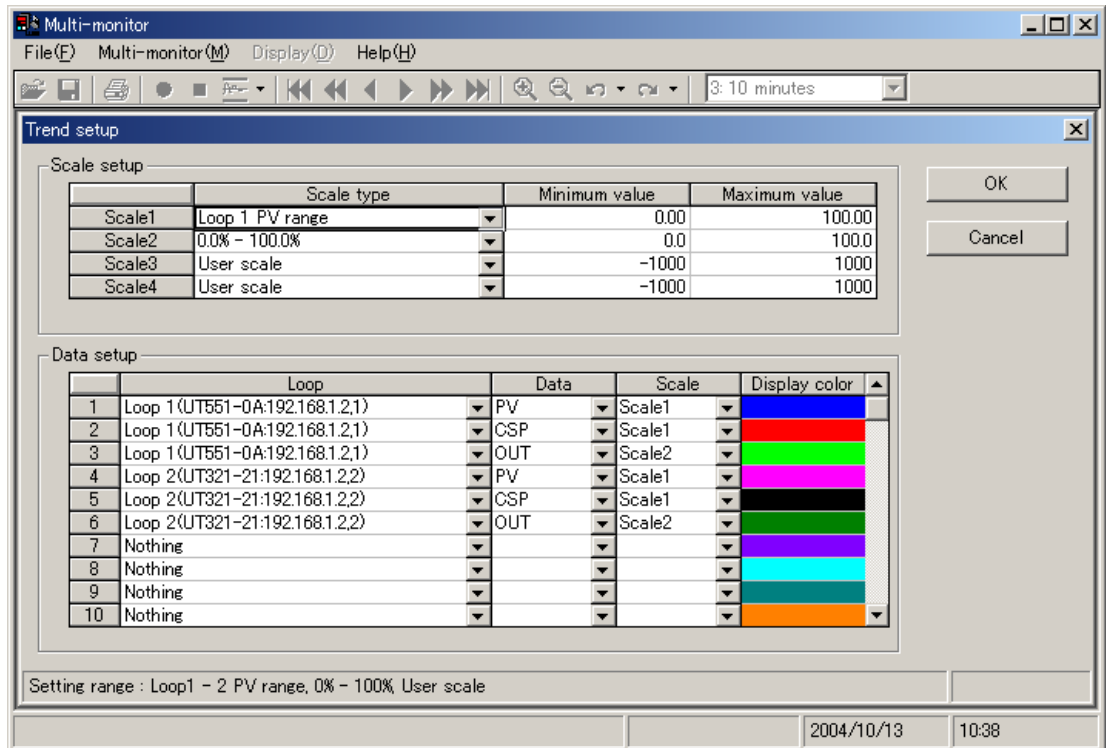

Figure 4.2.1 Trend Setup Dialog Box
- (1) Click **Front communication**.
- (2) From the **Serial port** list, select the communication port of the personal computer from COM1 to COM16.
- (3) Connect the controller to the personal computer, and then click **Execute**.
- (4) The Trend Setup dialog box (Figure 4.2.1) appears after Automatic scan is completed.
- (4) Set the Scanning start address and Scanning end address
- (5) Connect the controller to the personal computer, and then click **Execute**.
- (6) The Scanning address and the Number of detected loops are displayed during Automatic scan.
- (7) When the 16 loops are detected after starting scanning, the scanning to the Scanning end serial address is completed or **Cancel** is clicked, Automatic scan stops and the Trend Setup dialog box (Figure 4.2.1) appears. When interrupted on the way, the loops already detected by that time can be monitored.
- (1) Click **Terminal communication (Ethernet)**.
- (2) Set the target controller's IP address (Scanning start IP address and Scanning end IP address), and RS485 communication address (Scanning start serial address and Scanning end serial address) in the text box.
- (4) The Scanning address and the Number of detected loops are displayed during Automatic scan.
- (5) Automatic scan starts at the Scanning start serial address of the Scanning start IP address. After scanning the Scanning end serial address, the scanning of the next IP address is started. Clicking **Skips to the following IP address** during scanning transfers to the next IP address regardless of the serial address at that time.
- (6) When the 16 loops are detected after starting scanning, the scanning to the Scanning end serial address is completed or **Cancel** is clicked, Automatic scan stops and the Trend Setup dialog box (Figure 4.2.1) appears. When interrupted on the way, the loops already detected by that time can be monitored.
(1) The Trend Setup dialog box (Figure 4.2.1) appears after Automatic scan is completed.
The connection for the setting example of the Trend Setup dialog box (Figure 4.2.1) is shown below. A maximum of 16 data items can be displayed in the Multi-monitor display. In this example, the 6 data items of measured input value (PV), current setpoint (CSP) and control output (OUT) of two controllers are displayed.